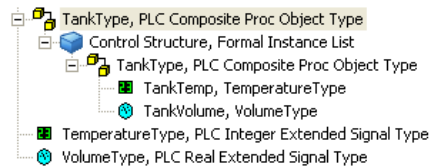

Figure 11. Created Tank Object Type
21. In the Process Object Configuration aspect, click  to add an instance of the real signal type *VolumeType*. In this example, name the instance *TankVolume* is used as shown in Figure 11.